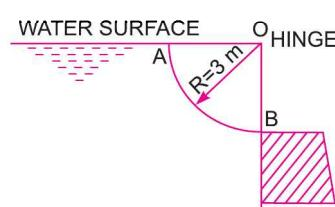

Fig. 3.58
19. Fig. 3.58 shows a gate having a quadrant shape of radius of 3 m. Find the resultant force due to water per metre length of the gate. Find also the angle at which the total force will act. [Ans. 82.201 kN,  $\theta = 57^\circ 31'$ ]